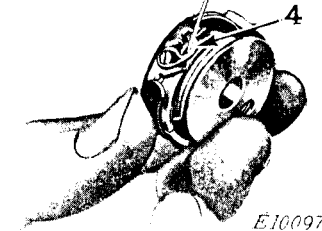

Fig. 9.
and back of the thread guide (4) as shown in Fig. 9.